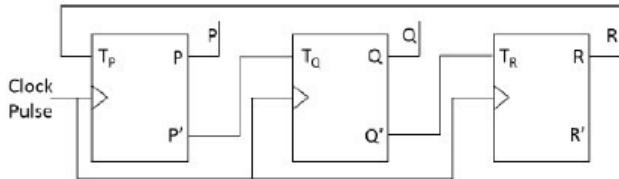

Fig. 6.4
3. Consider a 3-bit counter, designed using T flip-flops, as shown below in Fig. 6.4. Assuming the initial state of the counter given by PQR as 000, what are the next three states?